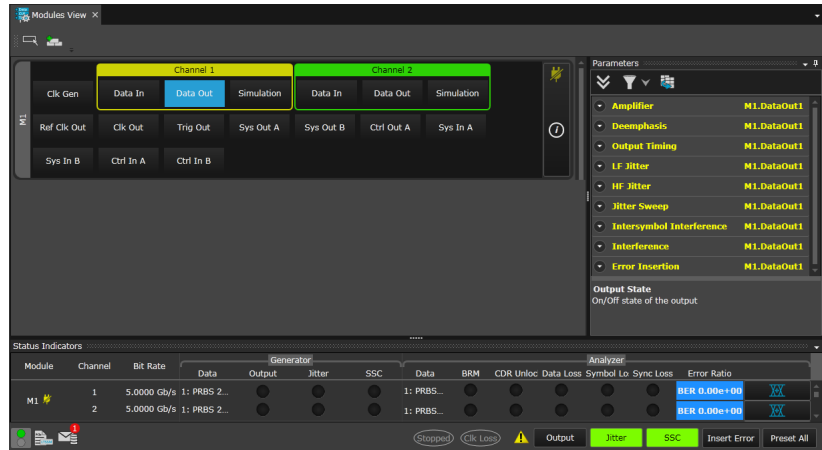

Figure 35 M8070A user interface
- 4 The screen shown in Figure 35 on page -88 should now be displayed.